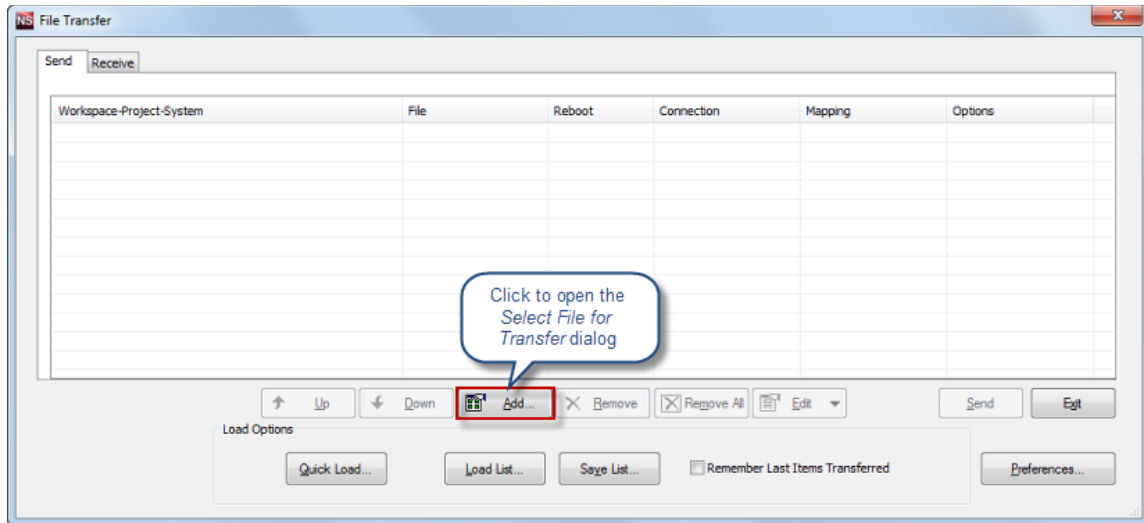

FIG. 121 NetLinx Studio 4 - File Transfer dialog
2. Select **Tools > File Transfer** to open the *File Transfer* dialog (FIG. 121):